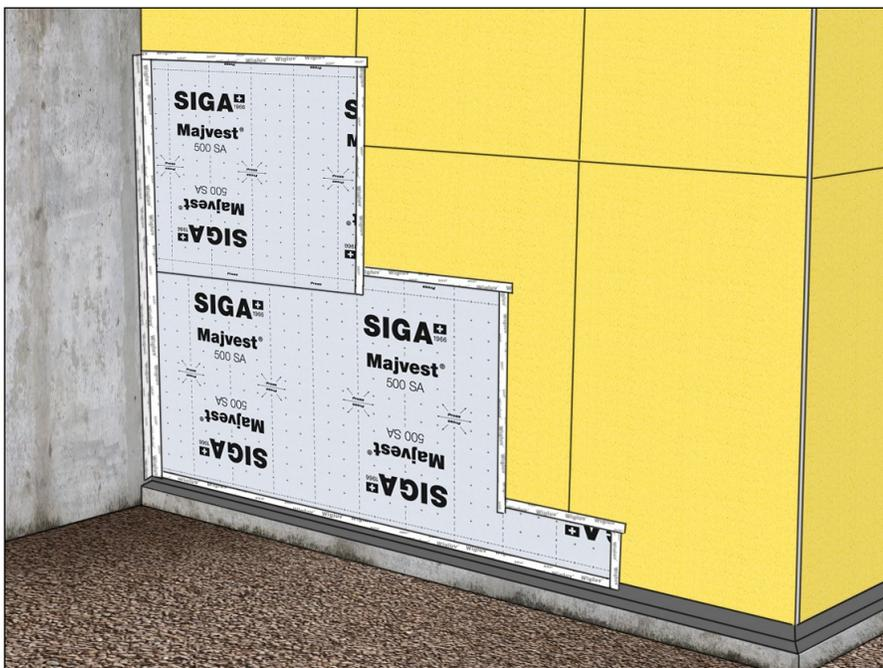

Figure 3
- Provide temporary weather protection for leading edges of Majvest 500 SA on any unfinished wall fields where membrane application has begun (Figure 3)